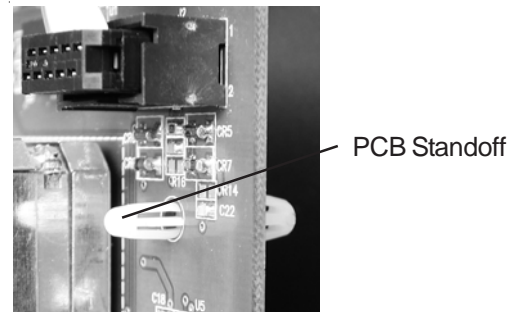

Fig. 2-2, Attaching the PCB Standoff
5. Attach the plastic standoff to the transponder PC board as shown in Fig 2-2.